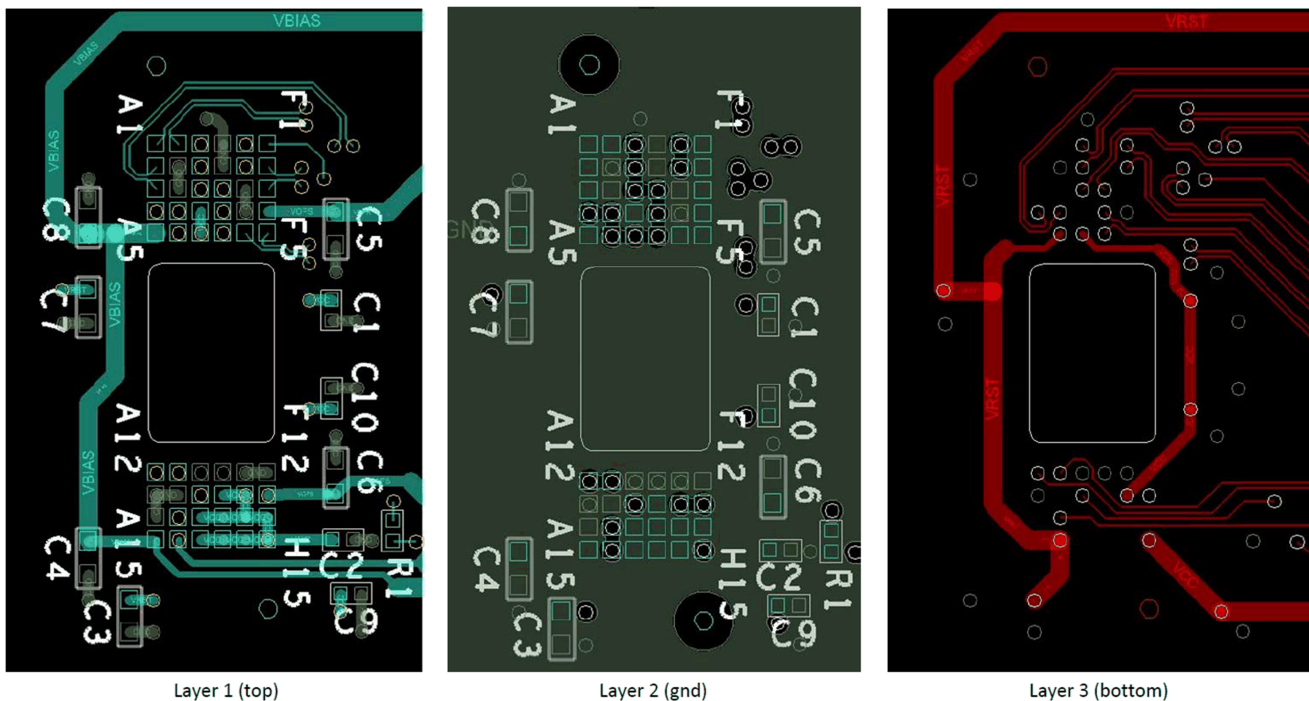

Figure 11-1. Power Supply Connections
- Minimize vias, layer changes, and turns for the HS bus signals. Refer to Figure 11-1.
- Minimum of two 100-nF (25 V) capacitors - one close to V_{BIAS} pin. Capacitors C4 and C8 in Figure 11-1.
- Minimum of two 100-nF (25 V) capacitors - one close to each V_{RST} pin. Capacitors C3 and C7 in Figure 11-1.
- Minimum of two 220-nF (25 V) capacitors - one close to each V_{OFS} pin. Capacitors C5 and C6 in Figure 11-1.
- Minimum of four 100-nF (6.3 V) capacitors - two close to each side of the DMD. Capacitors C1, C2, C9 and C10 in Figure 11-1.